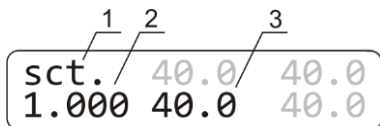

Figure 4. Display in calibration mode:
**Note.** Values marked in grey on figures 4 and 5 are not used in calibration and are meant for service engineers.
The device is precalibrated at the factory (calibrating coefficient is 1.000) for operation with temperatures measured by a sensor in the heating block. To change the calibration coefficient, hold the **Time Run/Stop** key pressed for more than 8 s to activate calibration mode. The calibration coefficient appears on the display (figure 4).
Set 1.000 value using the **▲** and **▼ Temp** keys as shown on fig. 4/1 to restore the factory settings. Press the **rpm Run/Stop** key once to save the changes and exit the calibration mode.
Hold the **Time Run/Stop** key pressed for more than 8 s to activate calibration mode (figure 4).